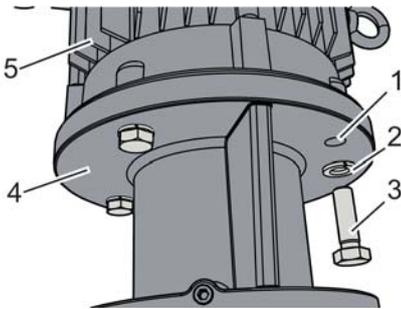

Fig. 83: Releasing the drive, example
1. ➔ Attach the drive (Fig. 83/5) with suitable lifting equipment on the transport eyes and tension slightly.
2. ➔ Unscrew the attachment bolts (Fig. 83/3) from the gear flange (Fig. 83/4) and place to the side with the retaining rings (Fig. 83/2).